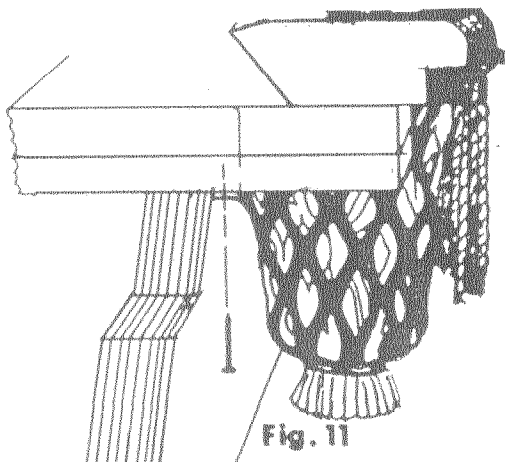

Fig. 11
22. Attach pockets to underside of slate frame using 3/4" long flat head nails from hardware bag (Figure 11).